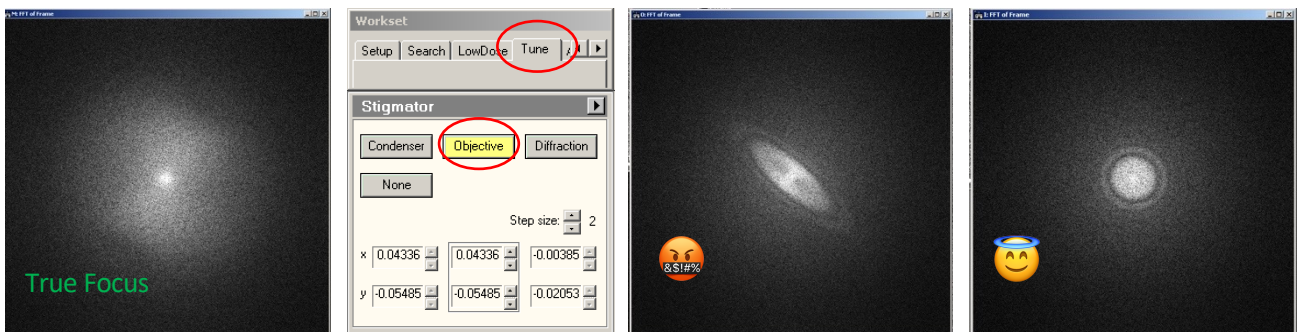

Figure 7: (From L-R), image taken at focus, the objective Stigmator window, an astigmatic FFT, a corrected FFT.
4. Using the Focus Knob on the right-hand control pad, find true focus. You know you are at true focus when the FFT resembles the one shown in Figure 7.
If the beam has astigmatism then follow these steps to correct it (Fig. 7).